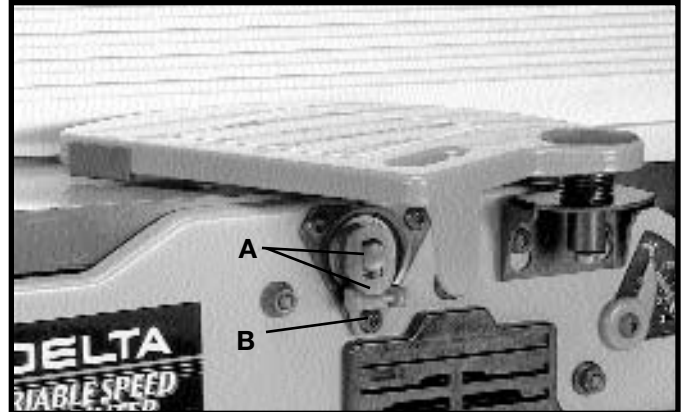
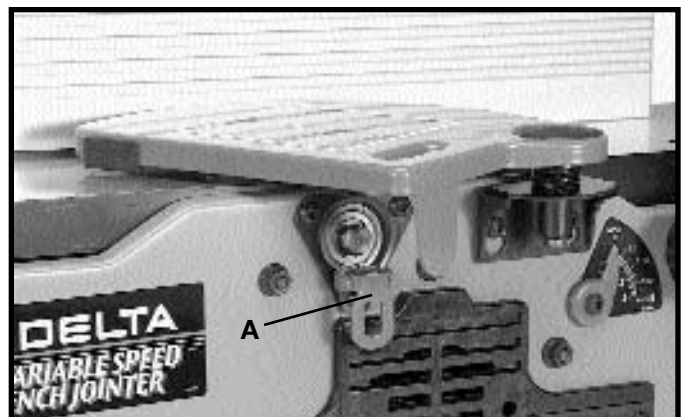

Fig. 15
Fig. 16
1. Assemble cutterhead lock (A) Fig. 15, to the front side of the jointer base, using the 7/16" long socket button head screw (B). **NOTE: THE CUTTERHEAD LOCK (A) IS TO BE ENGAGED WITH THE CUTTERHEAD SHAFT AS SHOWN IN FIG. 15. ONLY WHEN SETTING KNIVES. ALL OTHER TIMES THE CUTTERHEAD LOCK (A) SHOULD BE DISENGAGED FROM THE CUTTERHEAD, AS SHOWN IN FIG. 16.**